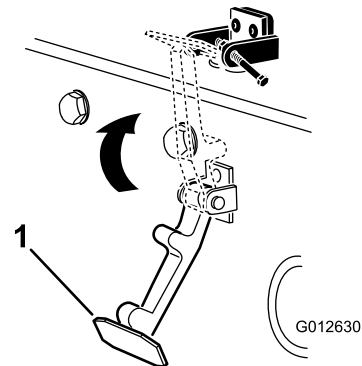

Figure 9
5. Rivet the brackets and the washers to the hood (Figure 9).
6. Hook the latch onto the hood-latch bracket (Figure 9).